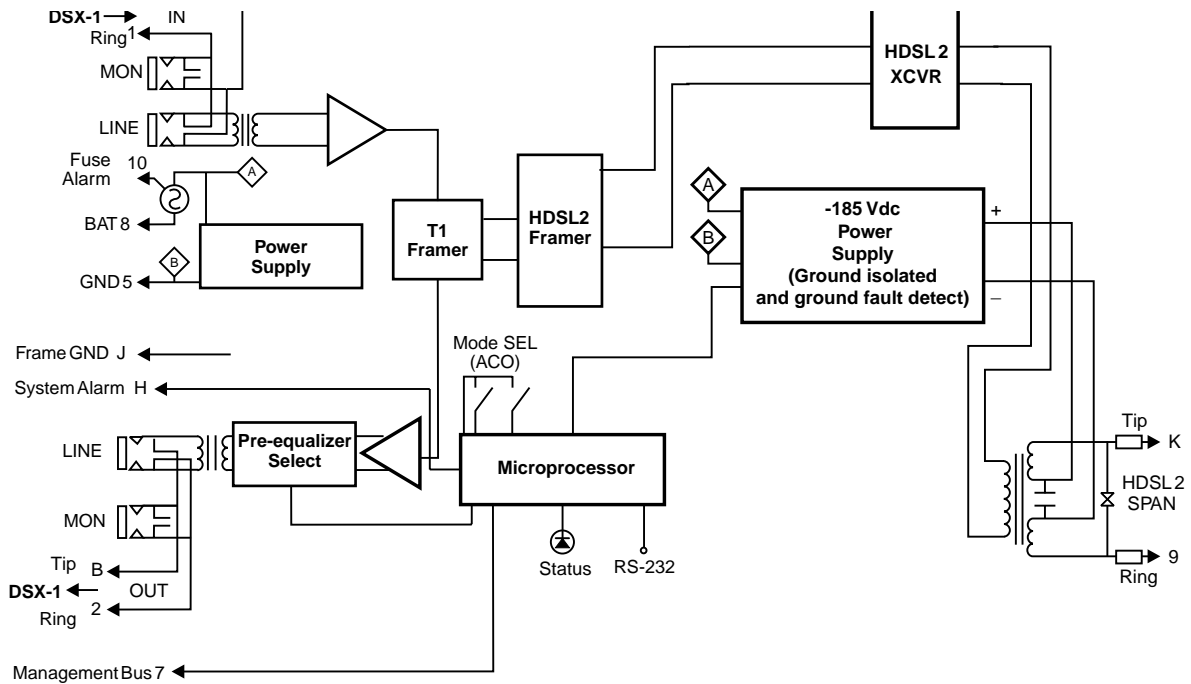

Figure 31. H2TU-C-319 List 1A Block Diagram
Figure 31 shows a block diagram of the H2TU-C. The H2TU-C receives a 1.544 Mbps DSX-1 data stream from the DSX-1 digital cross connect interface. The H2TU-C contains a DS1 frame synchronizer controlled by an 8-bit microprocessor that determines the type of framing on the DS1 stream and synchronizes to it. The H2TU-C recognizes Superframe (SF), including D4 or Extended Superframe (ESF) framing.